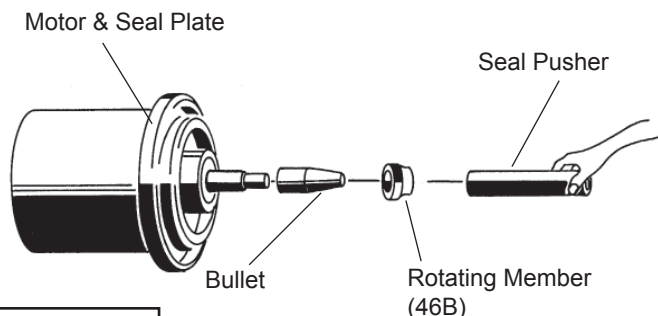

FIGURE 5
Slide retaining ring (46d) over shaft and let rest on bearing (47). Place spring (46c) over shaft and let rest on retaining ring (46d). Lightly oil ( **DO NOT use grease**) shaft, bullet and inner surface of bellows on rotating member (46b), (See Figure 5), with lapped surface of rotating member (46b) facing outward, slide over bullet and onto shaft using seal pusher, making sure spring (46c) is seated in retaining ring (46d) and spring (46c) is lined up on rotating member (46b) and not cocked or resting on bellows tail.